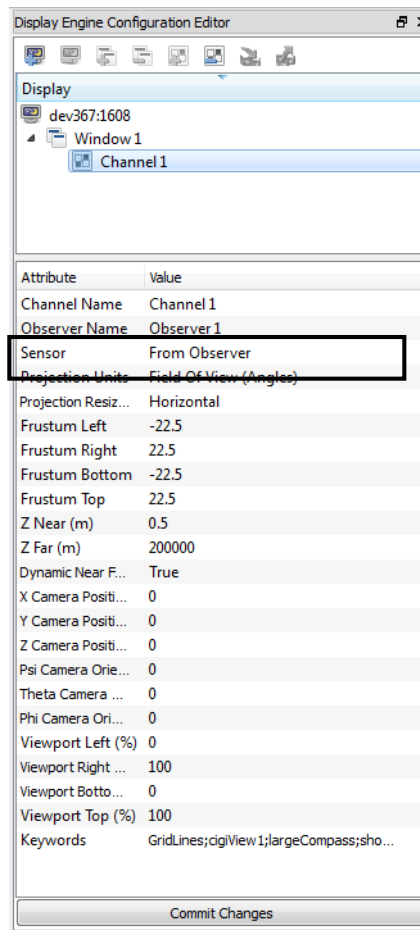

Figure 1-2. Display Engine Configuration Editor
- Select the channel for the remote display engine. By default, the Sensor attribute has the value From Observer (Figure 1-2).